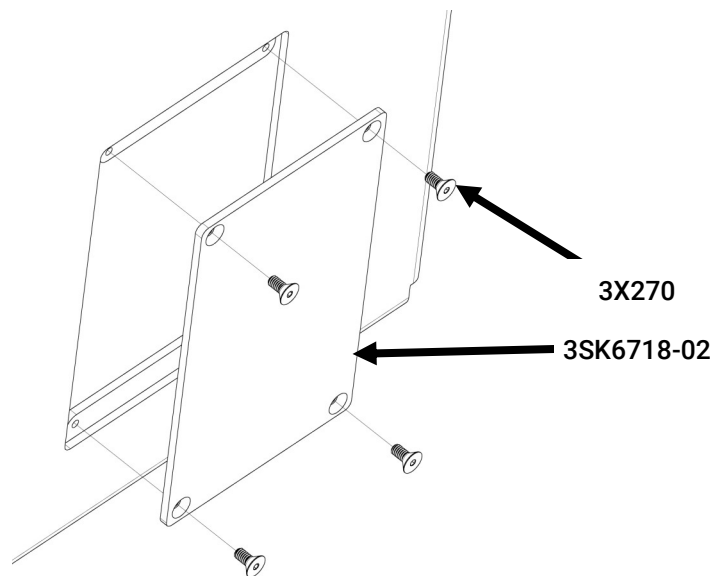

Figure 3
- D. Lift the skid plate into position, align the holes with the respective u-nuts, and loosely attach the skid plate using the (4) bolts prepared in step B. The front (2) bolts should go through the skid plate, the front splash tray, and then into the u-nuts attached to the subframe.
- E. Tighten all (4) hex bolts.
- F. Apply medium strength thread locker to the (4) flat head socket screws [3X270]. Place the access panel [3SK6718-02] into the hole in the skid plate and secure using the (4) screws (Fig 3). Apply medium strength thread locker every time these screws are installed.